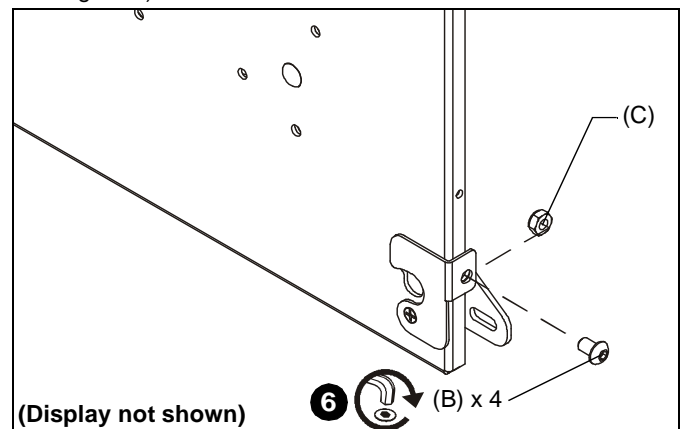

Figure 4
6. Lock the display to the mount using one 5/16-18 x 1/2" button head cap screw (B) and one 5/16" lock nut (C) through the latching flag at each corner of mount. (See Figure 4)